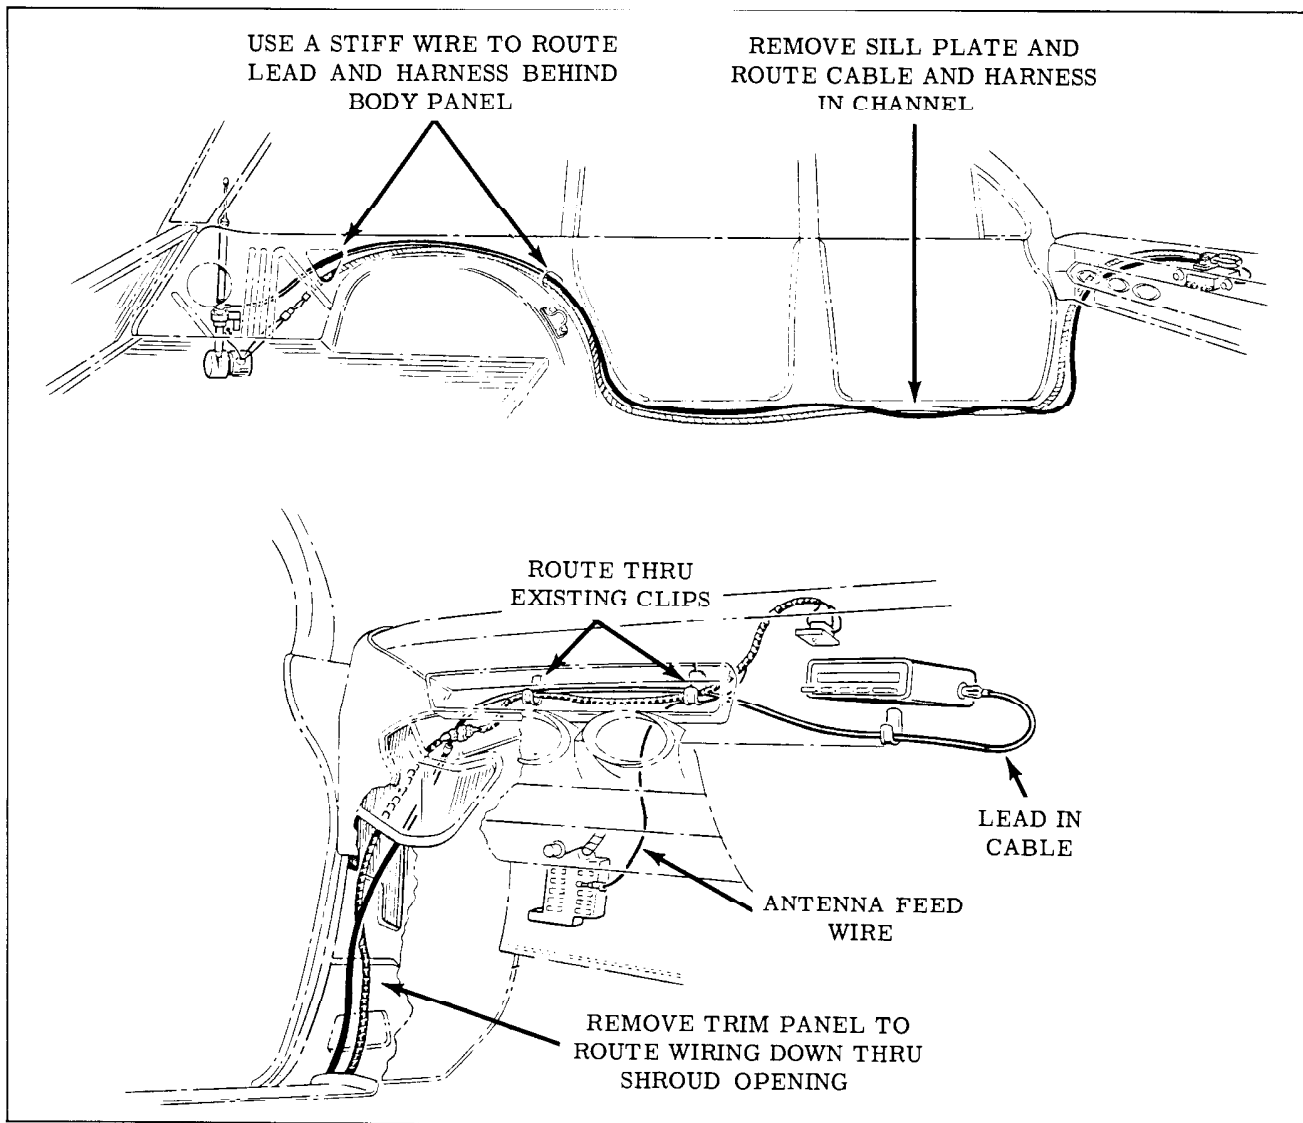

Fig. 15-20 Power Antenna Lead-In (35 & 45 Styles)
4. To install, reverse the removal procedure and route and retain the lead-in as shown in Fig. 15-20.